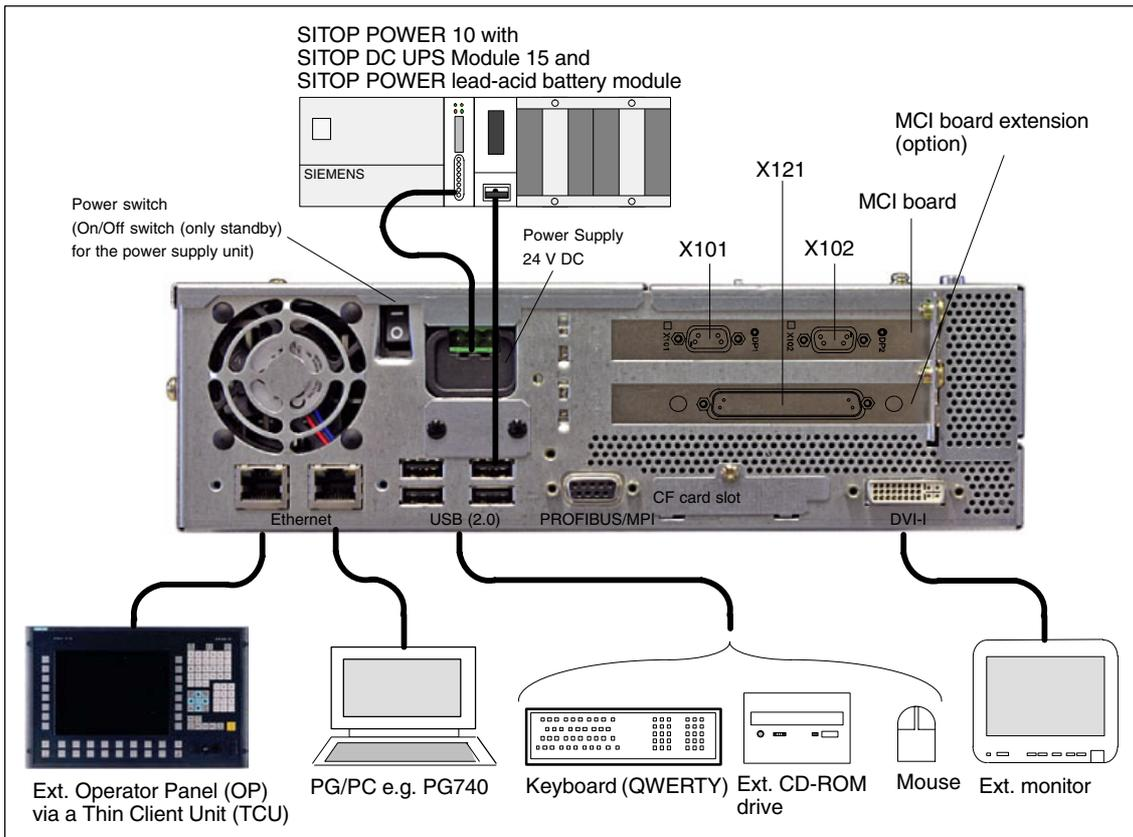
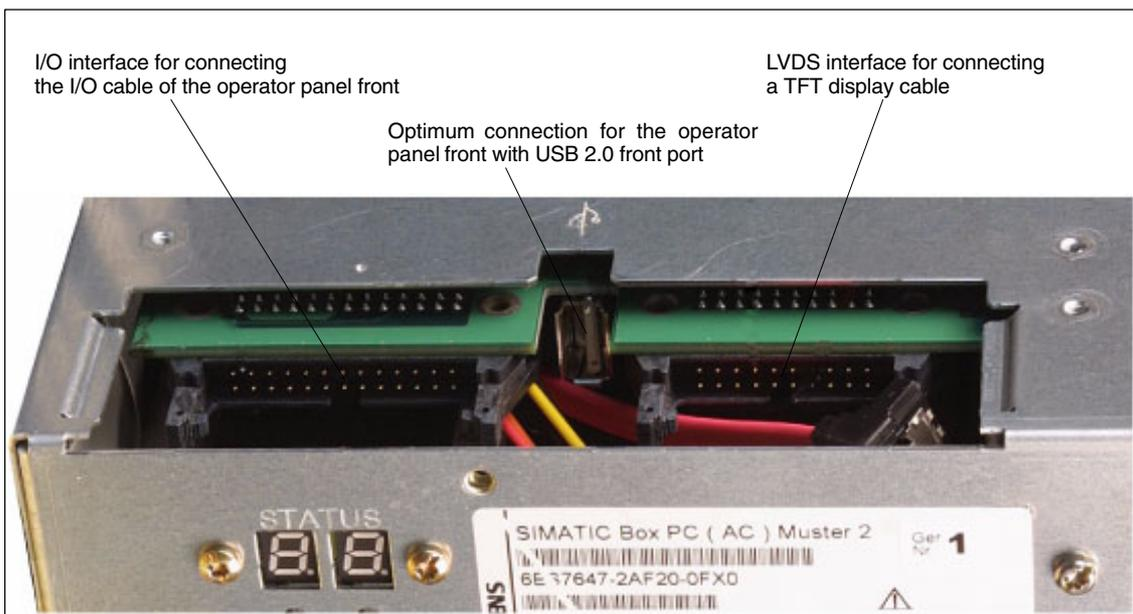

Fig. 3-8 SINUMERIK 840Di sl: PCU 50.3 (right housing)
Fig. 3-9 SINUMERIK 840Di sl: PCU 50.3 (rear housing)
- 5) For an overview of the standard PC interfaces, see Fig. 3-8, Page 3-102 and Fig. 3-9, Page 3-102, as well as: